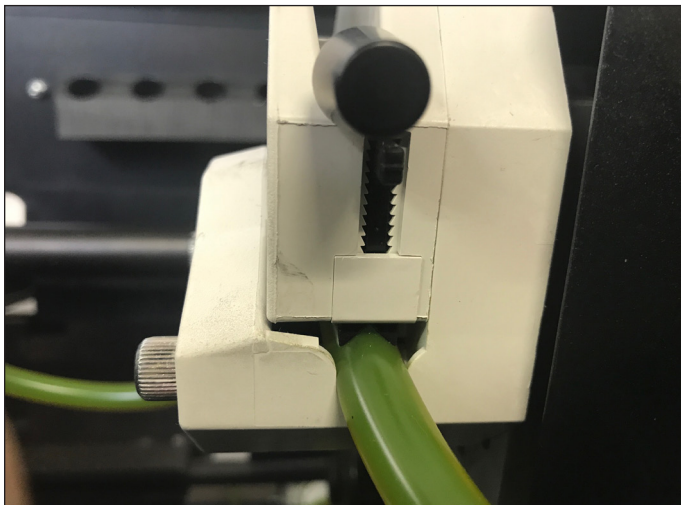

Fig. 1
1. Place the ink in and ink out tubes in the pumps and lock in place, taking care to not pinch the hose when the clamp is fully closed. (Fig 1.) Note the correct orentation of hose to pump as shown. (Fig. 2) Turn on the main power.